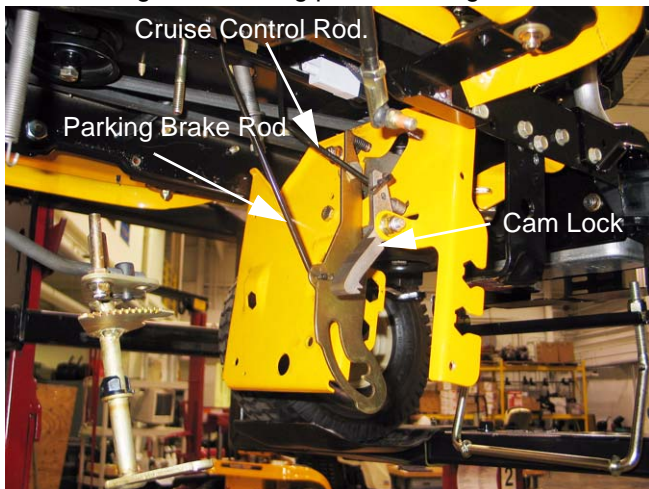

Figure 16.20
- 16.20. You now have access to the cruise linkage and cam lock. You also have access the park brake linkage and locking plate. See Figure 16.20.